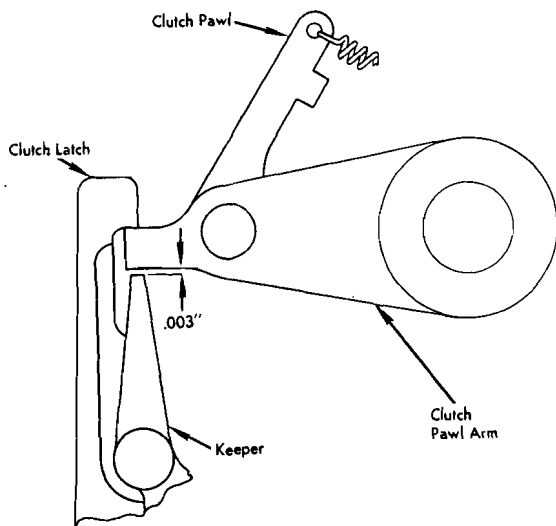

Figure 32. Clutch Adjustment
5. There should be .003" clearance between the keeper and the clutch pawl arm when the pawl is latched. This is obtained by stoning or peening the keeper (Figure 32). If the clutch is removed and replaced, the clutch plate should be mounted with the mounting screws in the center of the oversize holes. The other adjustments should then be checked.